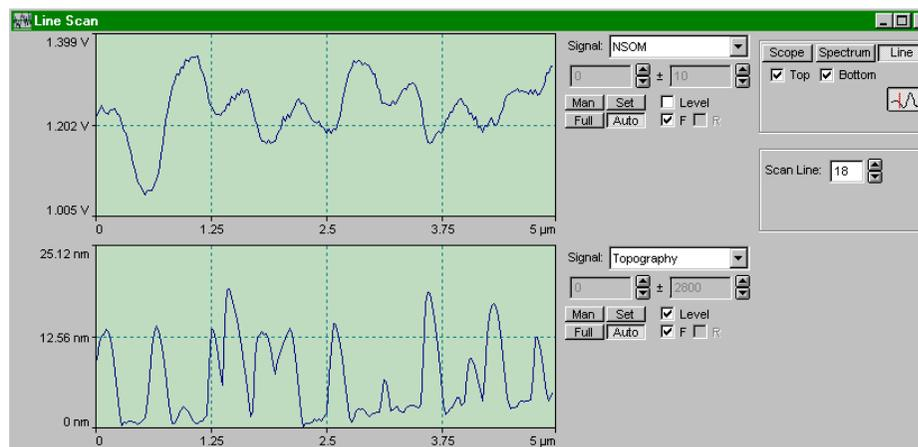

Figure 4-1 Optimized Line Scans
- Step 15** Adjust the set point and the P-I-D settings until you get repeatable line scans, as shown in Figure 4-1.